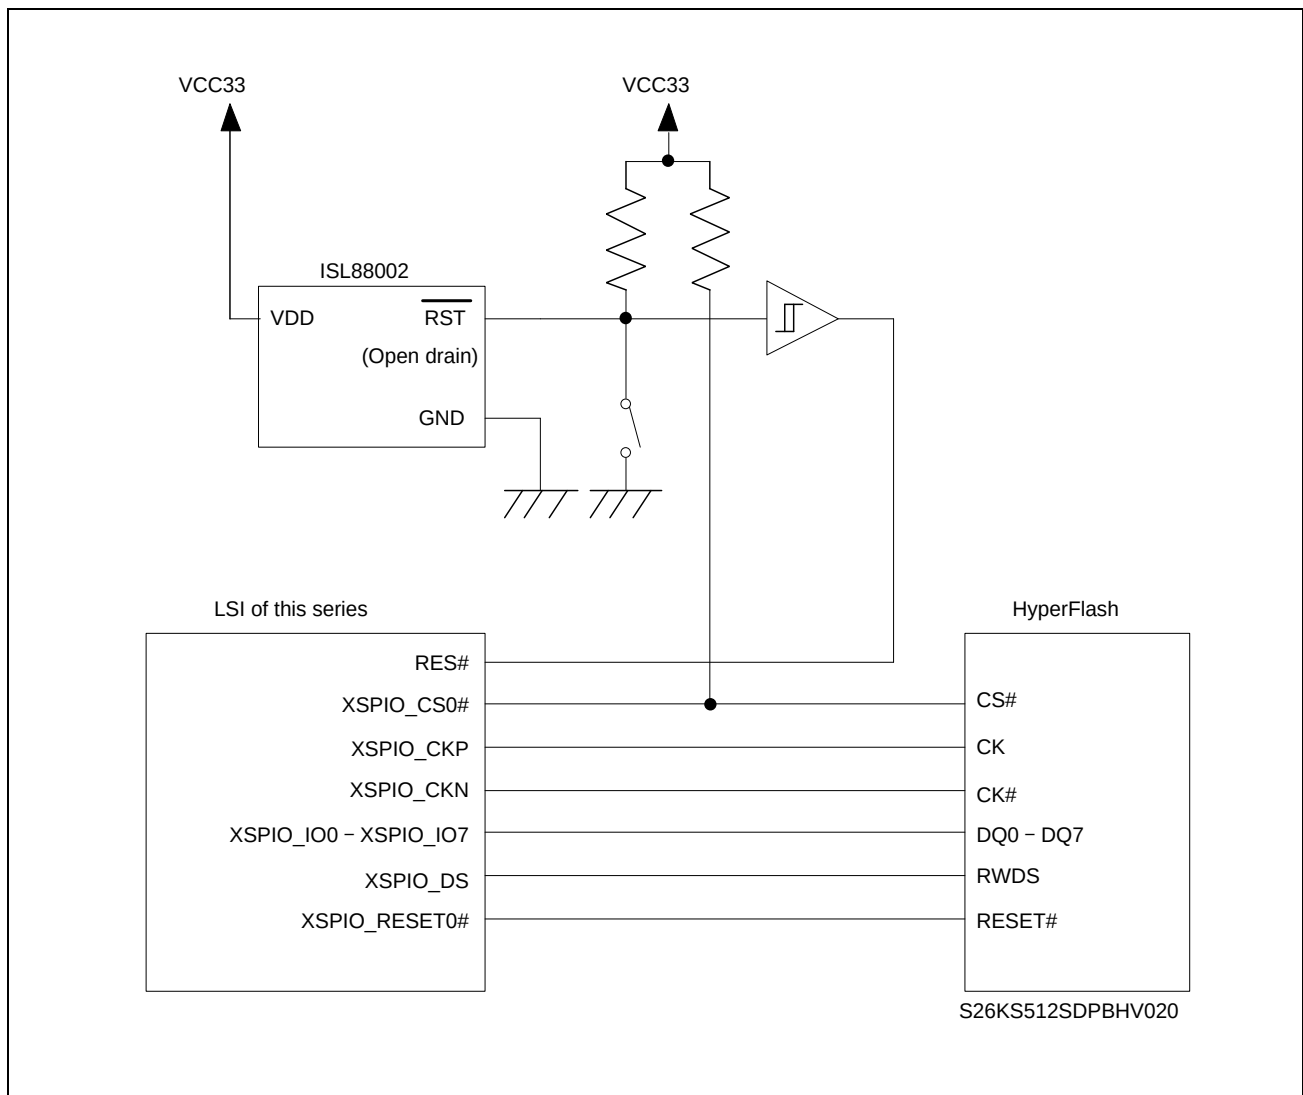

Figure 4.3 Connection example for x8 boot serial flash
**Figure 4.3** shows a connection example for x8 boot serial flash.